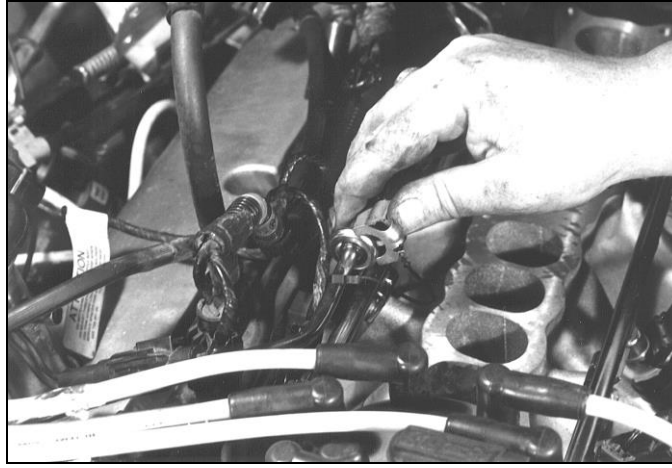

Figure 8
16. Reconnect the fuel lines, ensuring the connections snap together tightly. Reattach the safety clamps to the lines. Double-check to ensure all lines are properly connected and secure. See Figure 8.